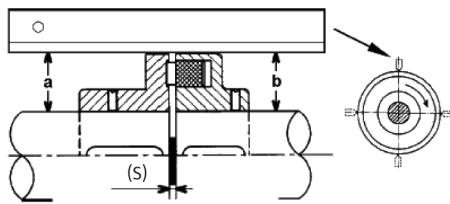
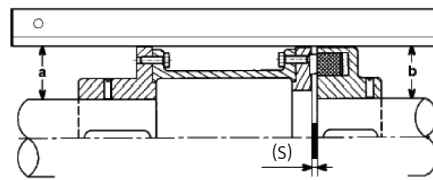

Fig. 5
Fig. 6
- The set is correctly aligned if a ruler placed axially across both coupling halves is at the same distance from the relevant shaft along its entire length, whereby it must be ensured that the measuring point is to be turned by hand. In addition, both coupling halves must be at an equal distance apart over their entire length (manufacturer's presetting of gap (S) = 3-5 mm). This is to be checked with callipers or gauge. (Fig. 5, fig. 6 with expansion coupling or reduction sleeve)